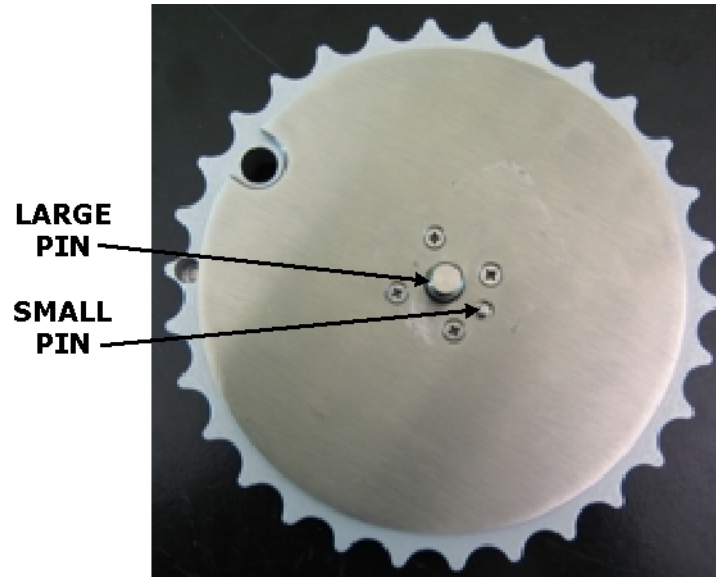

Figure 3-3
5. Without moving the bottom plate install the carousel onto the loading head. The large and small pins on the bottom plate must align with the holes in the loading head. DO NOT move the bottom plate to align the holes, move the entire carousel. Refer to Figures 3-3 and 3-4 below.